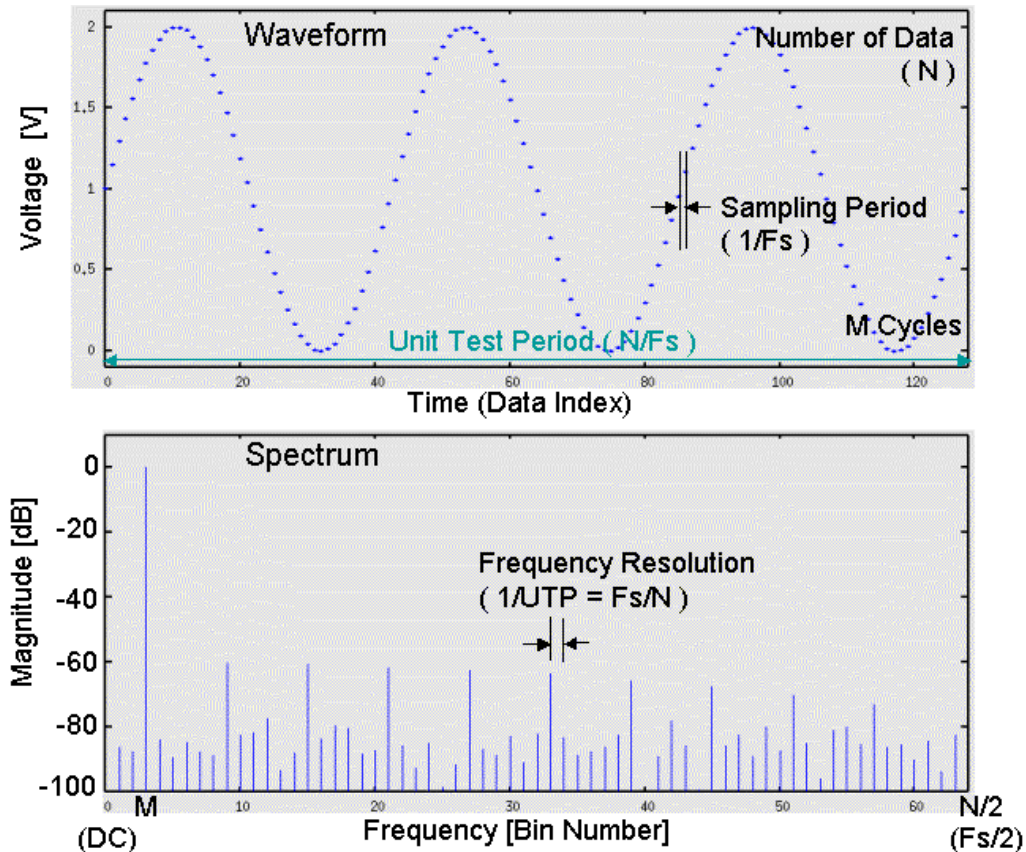

Figure 2: Sampled Waveform and DFT/FFT Result (Spectrum)
Figure 2 shows the relationship of the time domain data and its frequency domain data. The UTP includes a whole number (M) of cycles of sinusoidal waveform. The number of total sampling points is N . Then the frequency domain spectrum appears as shown in the lower picture. The number of total spectral bins is $N/2$. The index of the bins starts from 0 that is DC. The bin step or the frequency resolution is the reciprocal of the UTP. The index of the final bin is $N/2-1$. The signal spectrum is located at the bin number M . You should be very familiar with these relationships – F_t , F_s , M , N , UTP and F_{res} in DSP-based testing.
In the time domain picture in Figure 2, a whole number or an integer number M cycles of waveform is exactly captured in the N points of data. It can be expressed as Equation (1).